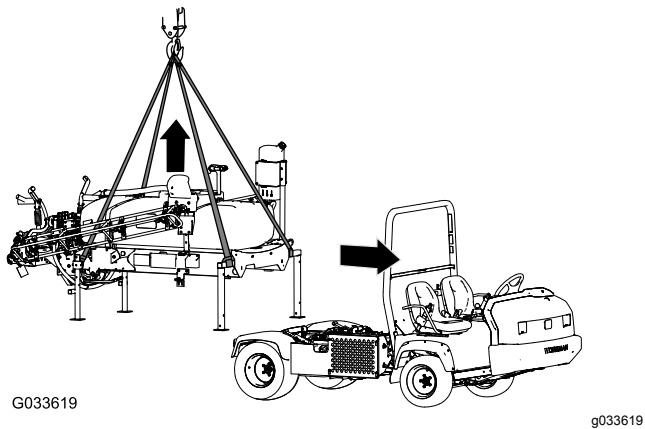

Figure 120
1. Lower booms to approximately 45° and then pivot them forward (Figure 120).
5. Attach the lifting equipment to the horizontal tubes of the forward jackstands and the vertical post of the rear jackstands (Figure 120).
7. Lift the tank skid from the machine high enough to clear the skid from the machine (Figure 120).